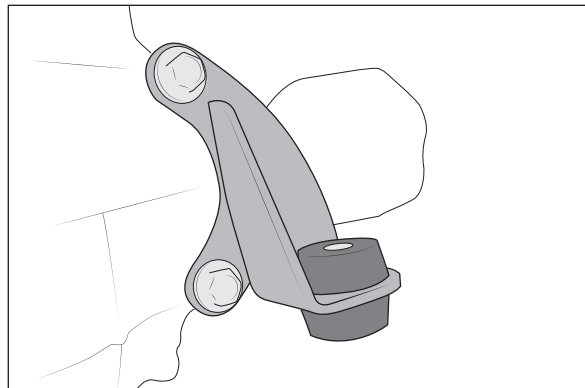

Figure 10
- B. Install driver side mount using factory bolts and torque to 81 ft-lb (fig. 10).
- D. Install bushings into front differential brackets so that steps are inside hole in brackets. Insert 40mm sleeves into bushings (see fig. 10–11).